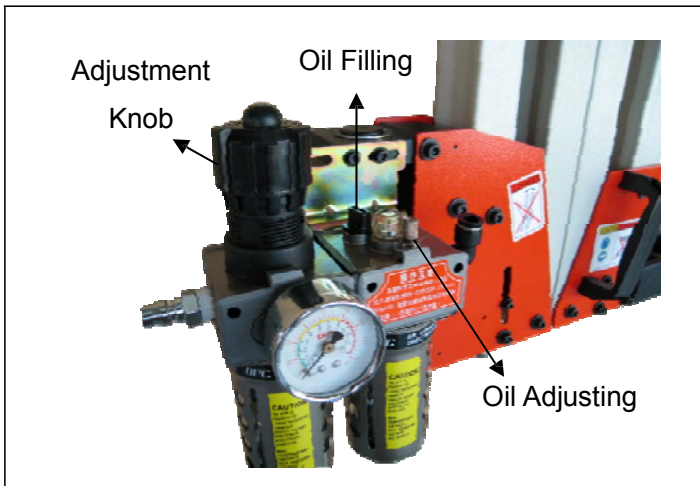

Figure 8-1
- (1) Add lubricant to the air unit body. Unscrew the oil filling plug and add approximately 8-10 ounces of oil. Replace plug and tighten securely. The oil filling plug has to be closed to original situation (see Figure 8-1).
- (2) Recommended lubricant : ISO VG22, CPC Circulation Oil R32
- (3) Pull the adjustment knob up and adjust air pressure to 7~9 kgf/cm2. Turn the adjustment knob clockwise to increase the pressure and counter clockwise to reduce the pressure. After adjusting the pressure, press the knob down into its locked position to prevent accidental setting change (see Figure 8-1).
- (4) Depress and hold the operation lever of the spindle. While the spindle is operating, check the oil flow rate through the sight glass on top of the air unit body. The air unit should operate 3-5 drops/minute. Rotate the oil adjusting screw clockwise to decrease the oil flow rate; counterclockwise to increase the oil flow rate (see Figure 8-1 and 8-2).